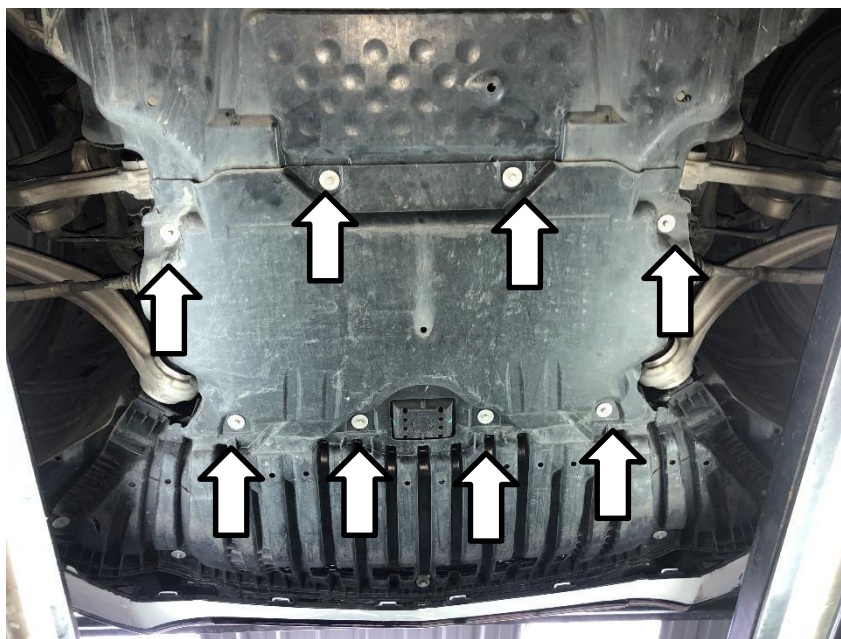

Fig. 4
4. Remove the two front lower guard. (Fig.4,5)